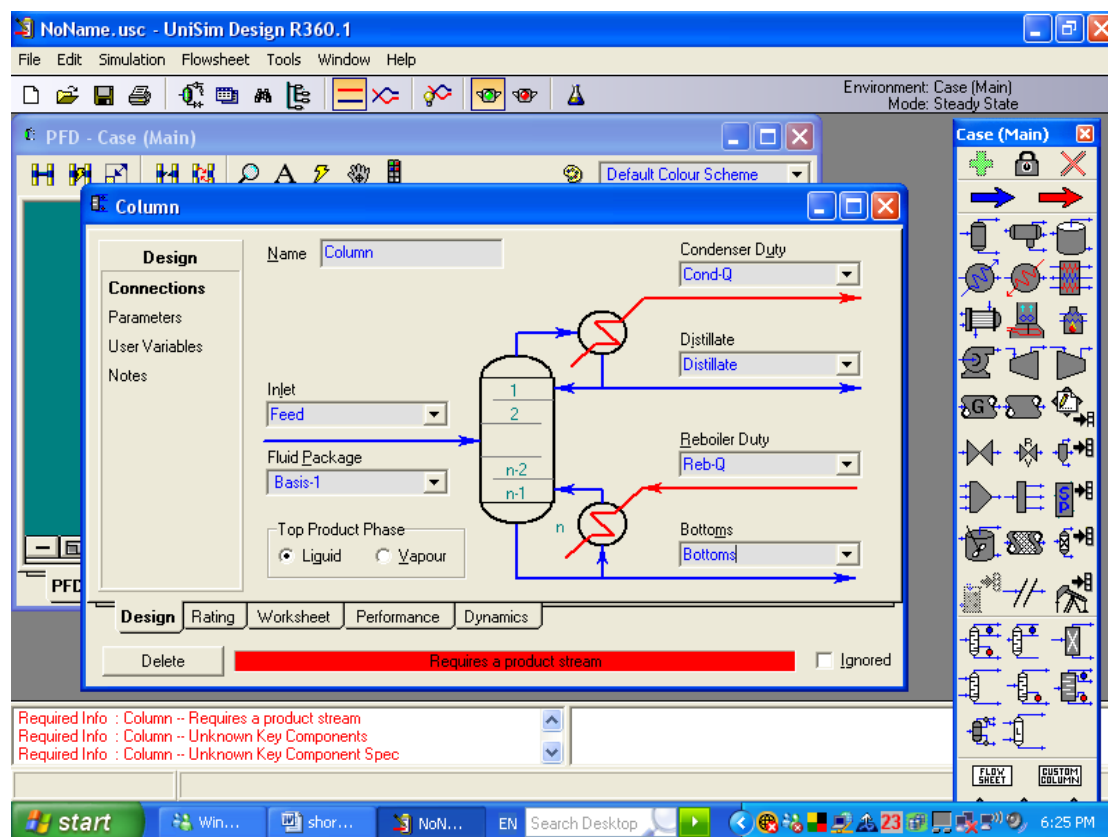

Figure K-17. Snapshot of **Column** window from **Design** tab in **Connections** menu.
Step 17. Double clicking on the Red icon of the column shows the Column window as shown in Figure K-17. Click on the Design tab and enter the different streams: Feed, Distillate, Bottoms, Reb-Q, Cond-Q. Choose Liquid button for Top Product Phase from Connections as shown in Figure K-17.